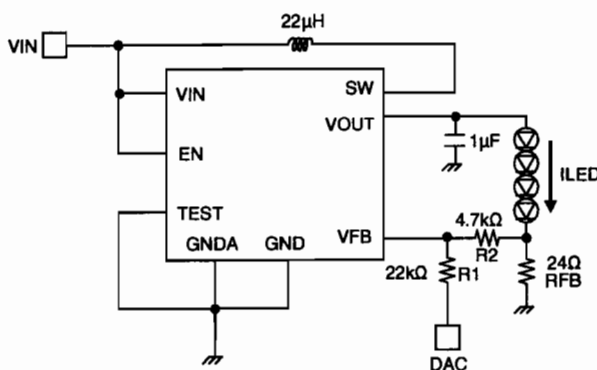
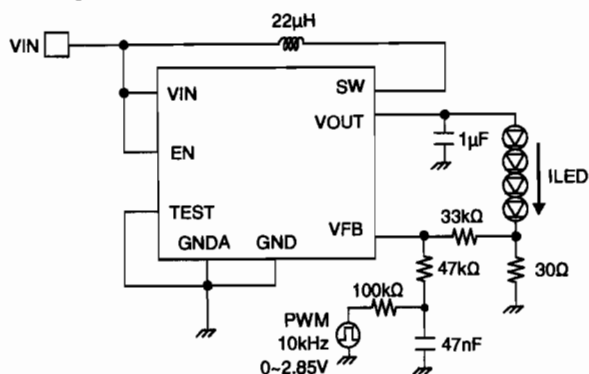

Fig.39 The brightness adjustment example by DAC
Fig.41 The brightness adjustment example of VFB terminal by PWM (fPWM = 10kHz)
(2) The continuous time the brightness adjustment is made by giving DC control voltage to VFB pin of BD6061GUT/BD6063HFN/BD6071HFN/BD6072HFN via a series resistor as shown in Fig.39. LED luminance (current) changed by giving DC voltage to VFB directly. DC voltage is given from filtered one of DAC signal, or PWM signal shown in Fig.41. The advantage of this approach is that the PWM signal to be used to control the LED brightness can be set to a high frequency (1kHz or higher). And please don't use duty less than 5% or more than 95% of current setting for the brightness adjustment.